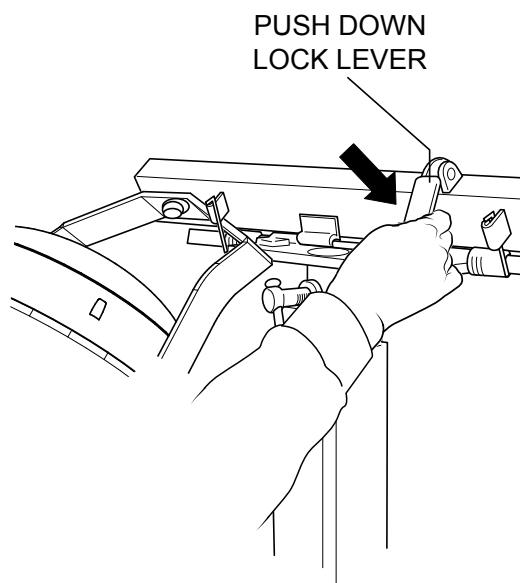

Figure 19. Locking Lamp Stand
5. After lighting unit has been completely pushed down, push down fold lever (Figure 19) to lock the lamp stand in place.